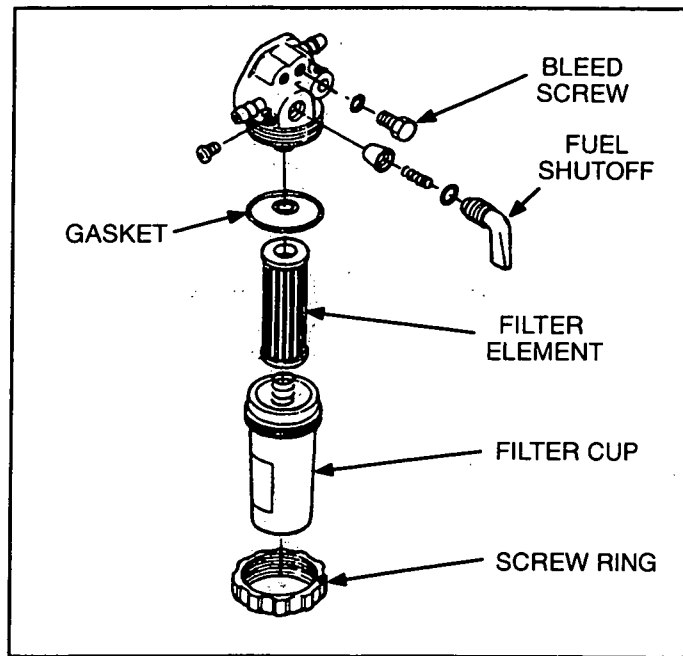

FIGURE 9. FUEL FILTER ASSEMBLY
2. Loosen the bleed screw (Figure 9). Remove the screw ring and remove the filter cup.